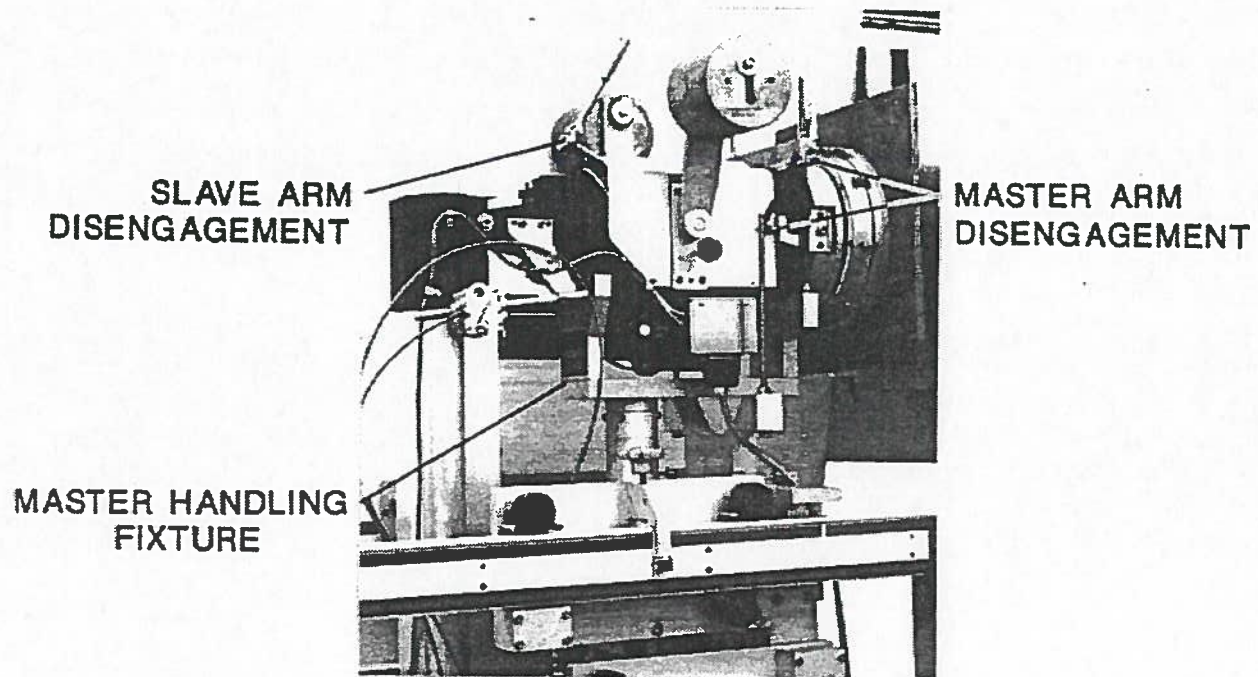

FIG. 28
5. Elevate the master jack assembly until the master handling fixture cradles the master arm and secure the manipulator to the master handling fixture (Fig. 28). With a wrench, disengage the slave arm from the seal tube by rotating the disengagement shaft. The slave arm locks automatically when disengaged from the seal tube.
7. Back out the three screws which engage the master arm to the seal tube (Fig. 28).